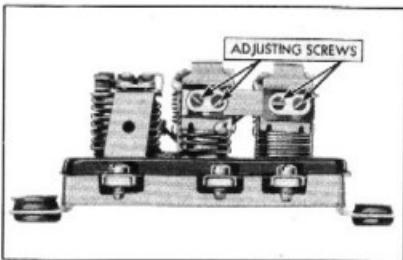

Fig. 29—Air Gap Adjusting Screws
- In some cases it may be necessary to readjust the air gap between the armature and core. To check this adjustment push the armature down all the way by hand, then allow it to come back up until points are just touching. Then measure the air gap, which should be from .075" to .085". Adjustment of this air gap may be made by loosening the screws, Fig. 29, which mount the upper contact support. The support may then be moved up or down as required to provide an air gap of .075" to .085".
2. Adjustment of the air gap—Push the armature down all the way by hand. Allow it to come back up until points are just closing; then measure the air gap with a feeler gauge. The distance between the armature and the core should be .075" to .085". The air gap may be adjusted by loosening the two upper contact mounting screws, Fig. 29, and moving the upper contact support up or down as required to secure the proper air gap. Be sure that points are lined up and tighten screws down well after adjustment.